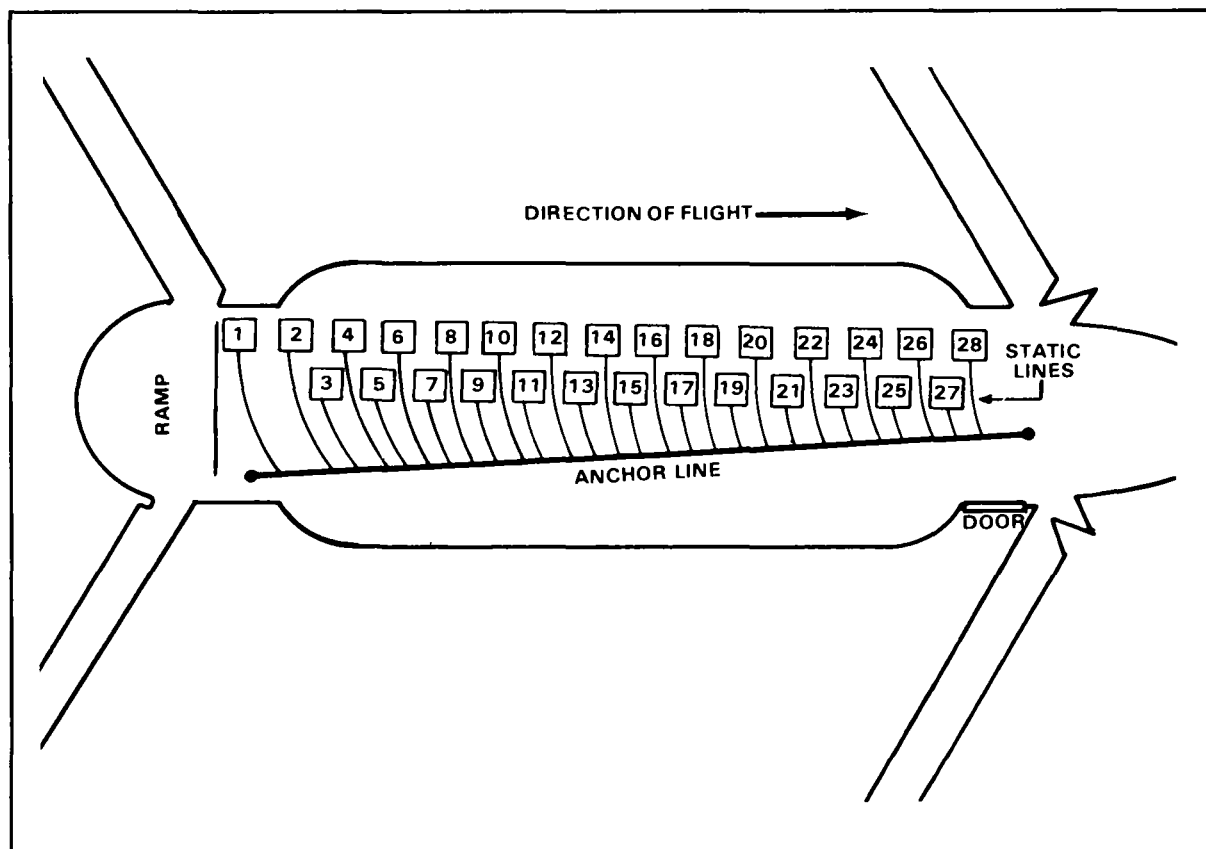

Figure 12-20. Static line routing.
b. **Jumpmaster.** The jumpmaster or safety personnel ensure that parachutists are hooked up consecutively, 1 through 28 (Figure 12-20). If the jumpmaster does not jump, he wears a safety harness or back emergency parachute. He checks each